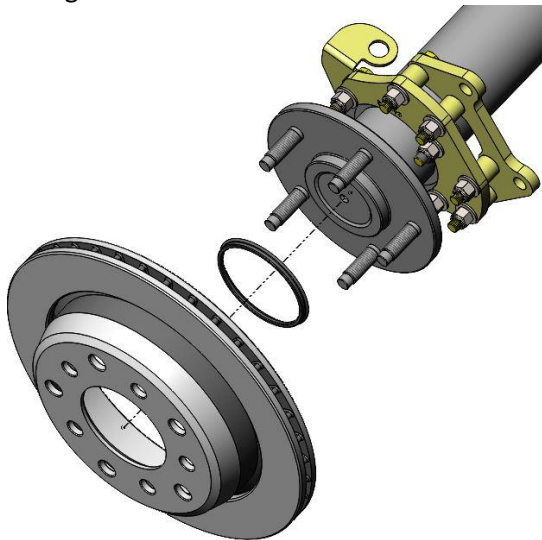
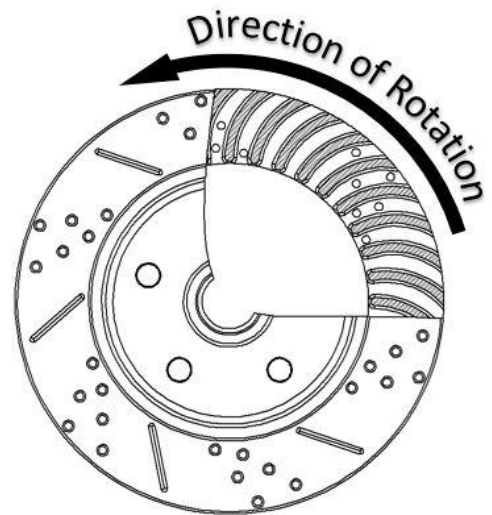

Figure 5a – Rotor and Centering Ring Installation
Figure 5b – Rotor Orientation
9. Install the rotor onto the axle flange. A Centric Ring is provided to center the rotor onto the axle shaft. Place the Centric Ring over the axle hub register. To allow the Centric Ring to go all of the way against the axle shaft flange, it may be necessary to clean the hub register with a wire brush or emery cloth. Once the Centric Ring is in place, slide the rotor over the studs against the axle flange. Verify that the rotor goes all the way against the axle flange. Figure 5a shows the proper sequence. **TIP:** To make caliper installation easier, thread a couple of flatwashers and nuts against the rotor to act as a lug nut and hold everything in place. **IMPORTANT:** If using slotted and drilled rotors, pay close attention to Figure 5b below for proper rotor placement on the driver and passenger side.